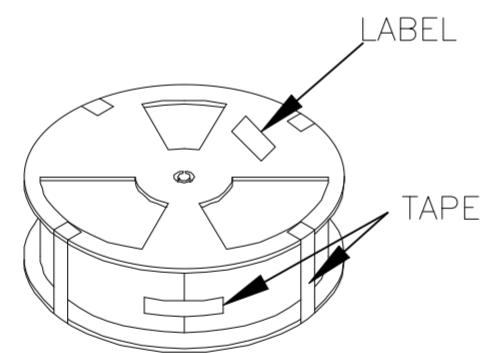

FIGURE 2
2. 20 SPACES SHOULD BE RESERVED FOR THE FINAL CARRIER TAPE OF THE PACKAGING, AND THE LAST END SHOULD BE A SELF-ADHESIVE FILM AND CARRIER TAPE CUT IT FLAT AND FIX IT WITH ADHESIVE TAPE. THE EDGE OF THE REEL ALSO NEEDS TO BE FIXED WITH ADHESIVE TAPE. STICK IT ON THE REEL PRODUCT PACKAGING LABEL (ATTACHED TO ONE SIDE OF THE SMALL HOLE ON THE REEL), INDICATING THE PART NUMBER, QUANTITY, AND MANUFACTURING DATE, AS SHOWN IN FIGURE 2 (IF THE CUSTOMER HAS SPECIAL REQUIREMENTS, FOLLOW THE CUSTOMER'S REQUIREMENTS).